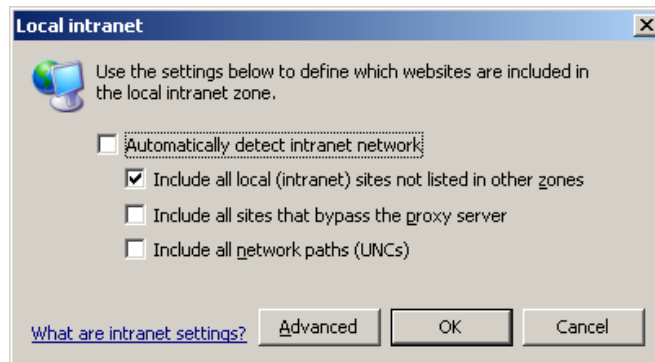

Figure 9. Local Intranet Dialog
19. Click **Sites** to open the Local Intranet dialog (Figure 9).
10. Click **Sites** to open the Local Intranet dialog (Figure 9).